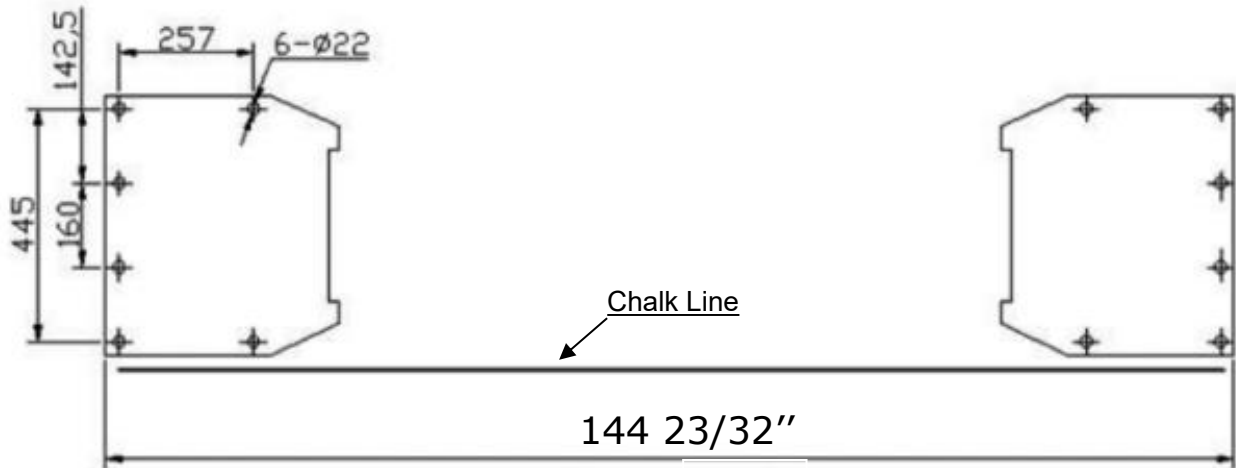

Fig. 6
B. Use a carpenter's chalk line to establish installation layout of base plate (See Fig. 6).